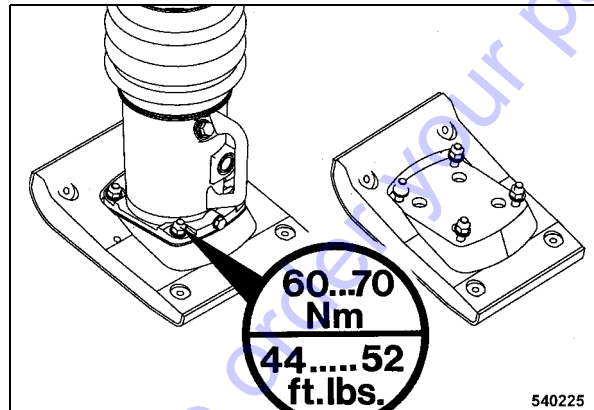

Fig. 25
- After changing the tamper foot plate (Fig. 25) tighten the 4 fastening screws with a tightening torque of 60 to 70 Nm (44 to 52 ft.lbs).